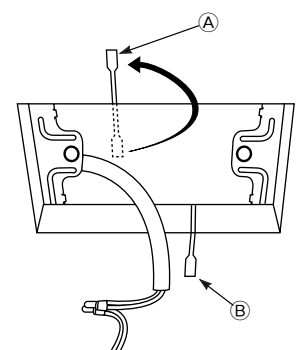
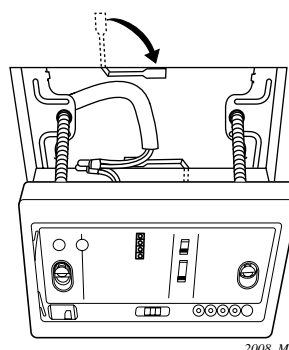

Fig. 7-20
Fig. 7-21
- (4) Fit securely into the ceiling material at sections (A) and (B) as shown in Fig. 7-20.
- (5) Connect the wire (2-wire core) from the signal receiving unit with the wire from the indoor unit. (See section on how to wire the receiving unit.) as shown in Fig. 7-20.
- (6) Use the supplied spacers to adjust for a thickness several inches more than the ceiling material and lightly fasten the receiving unit in place with the small screws (M4 x 1-9/16 in., 2 pcs.) supplied with the unit.
- (7) Tighten the machine screws after fitting sections (A) and (B) into the openings, in the gap between the signal receiving unit and ceiling surface as in Fig. 7-21. Do not apply strong force when tightening the screws. Excessive force might warp or damage the cover. When finished the signal receiving unit should still be able to move slightly when pressed as shown in Fig. 7-21.
- (8) Reinstall the cover plate.